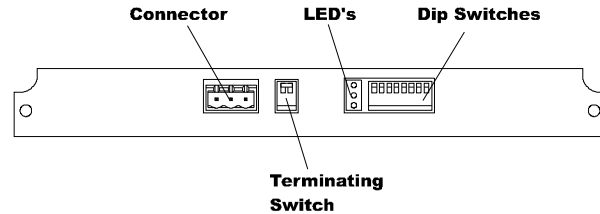

FIG. 3: TERMINATING SWITCH FOR TERMINATING LAST MODULE
Step 1. The Terminating Switch is accessible from the rear of the HI 3000 Series Module. (See Fig. 3)
Set all the Dip Switch Settings to ON. (See Fig. 3)